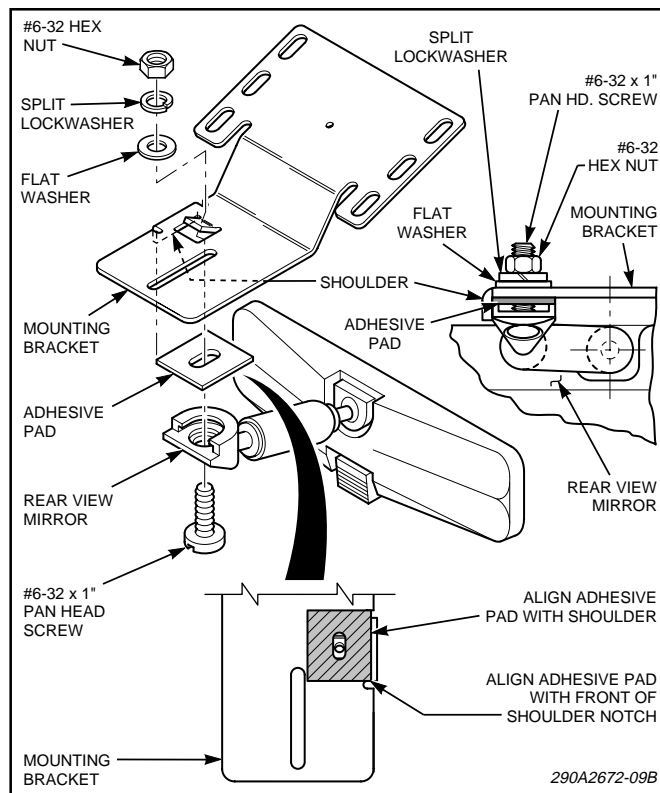

Figure 2.
4. See figure 2. Remove the release liner from one side of the adhesive pad and secure the pad to the mounting bracket in the location shown. Remove the release liner from the other side of the adhesive pad and secure the rear view mirror in the mounting bracket's small slot using the #6-32 x 1" pan head screw, #6 flat washer, #6 lockwasher and #6 nut.